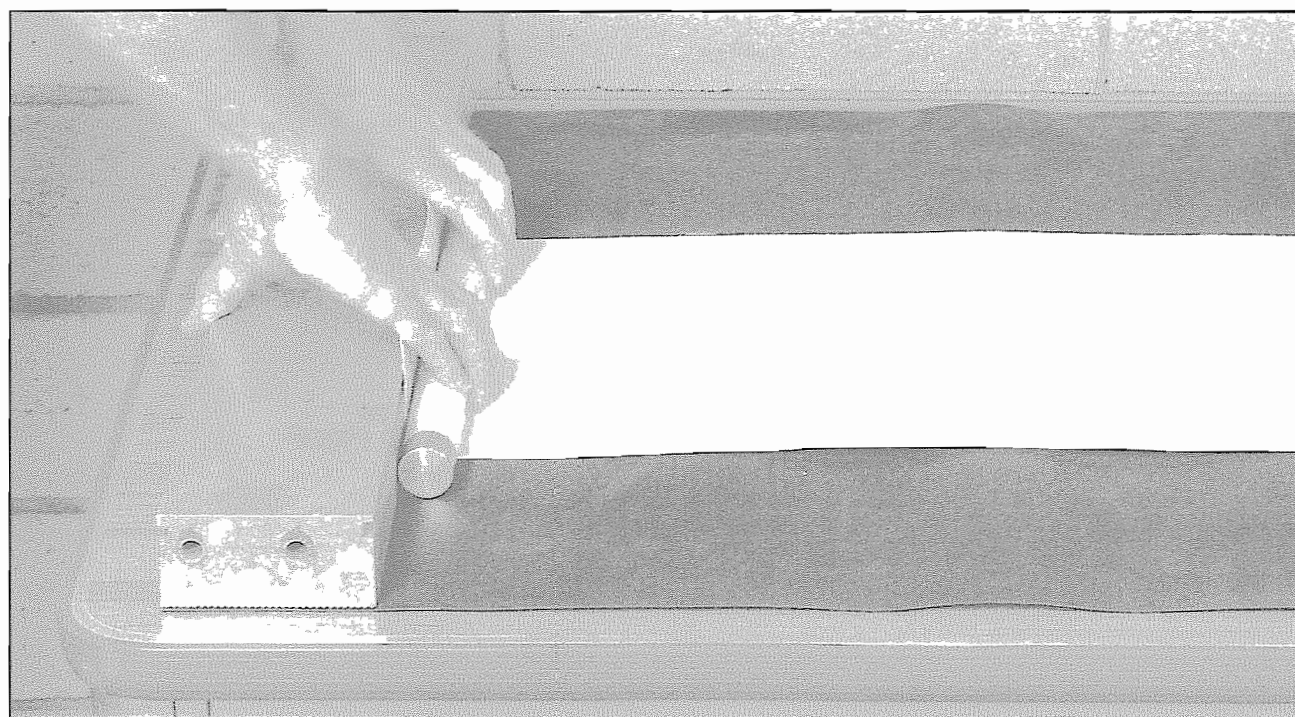

Figure 8-24. The bar is laid on top of the end of the paper, and aligned with the metal block.
6. Cut a piece of waxed paper 14" to 15" long. Roll it as tightly around the metal bar as possible, and align the bar with the forward edge of the metal block (*Figure 8-24*). The waxed paper keeps the bar from sticking to the tube during the rolling process, and the metal block insures that the bar is square with the edge of the paper.